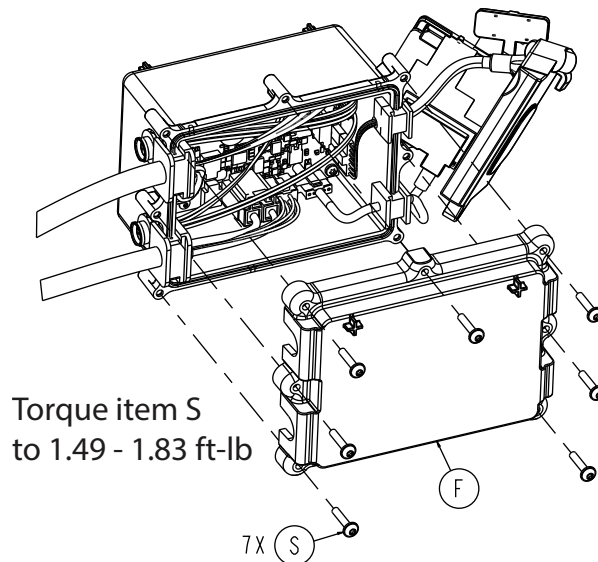

Figure 97 – Remove the HBC top cover screws
27. Using a T20 Torx driver, remove the seven round washer head tapping screws (S) that secure the top cover (F) to the HBC enclosure assembly (Figure 97). Remove and save the top cover. Save the screws.